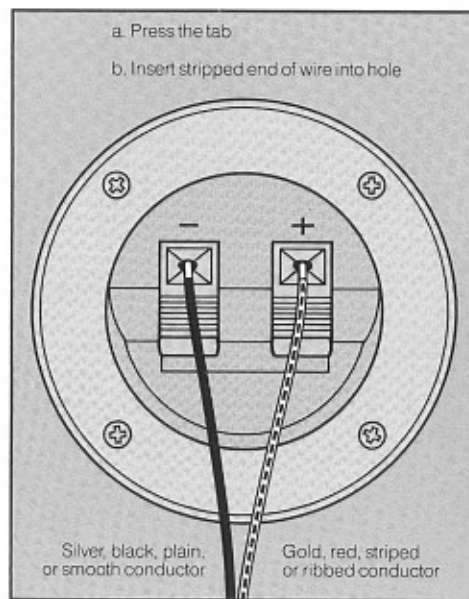

Figure 2. Connecting the speaker.
- Locate the speaker terminals on the back of the Part 1 (left) speaker. Connect the positive side of the wire to the (+) red terminal, and the negative side of the wire to the (-) black terminal. **Refer to Figure 2.**